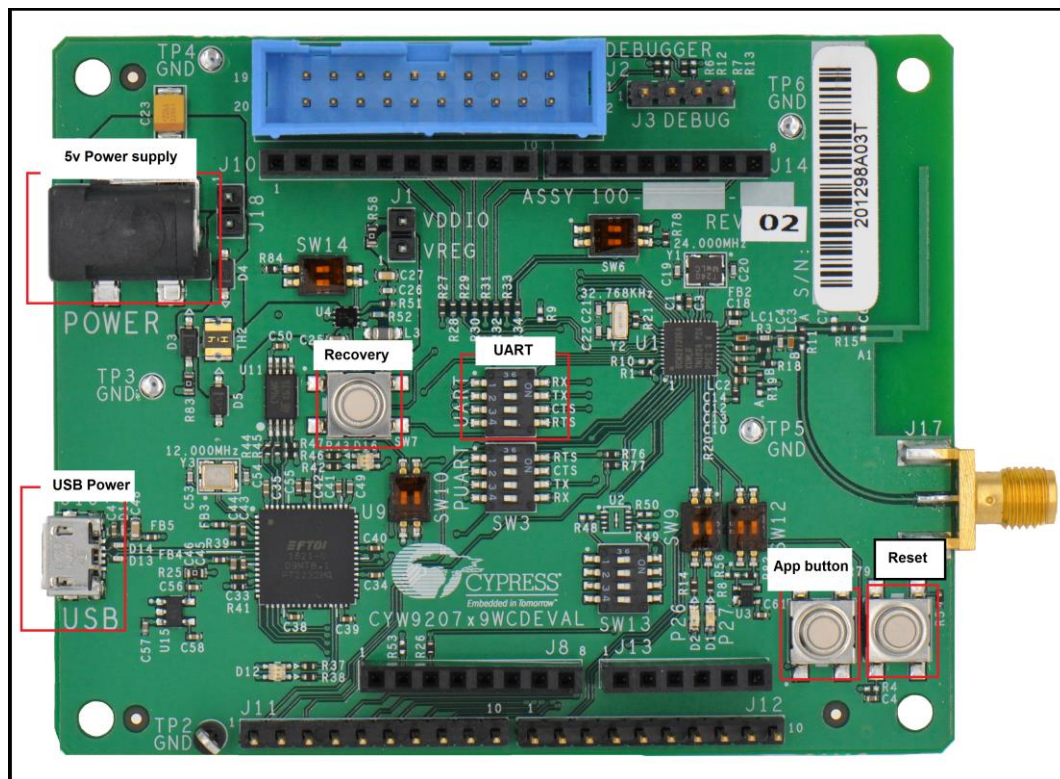

Figure 2: CYW9207x9WCDEVAL WICED Development Board Settings
Figure 2 shows the CYW9207x9WCDEVAL WICED development board. The figure shows call-outs to the ports, switches, and switch positions relevant to this document.
- When the SmartThings starts to search a new device, press the reset button (SW1 in Figure 2) on the development board. Then LED D1 on development board starts blinking (see Figure 3), which means the development board is now trying to connect a ZigBee network. After a while, the LED D1 stops blinking and SmartThings app shows that it detects a new device as following.
- Now, you can use SmartThings App to turn the LED D2 (see Figure 3) ON or OFF. While the SmartThings App shows the device is ON, the LED D2 on the development board is ON as well. You can also press the button on development board (SW5 in Figure 2) to toggle the state.
4. Press the **Reset** button (see Figure 2) on the WICED development board to view the application start-up messages.